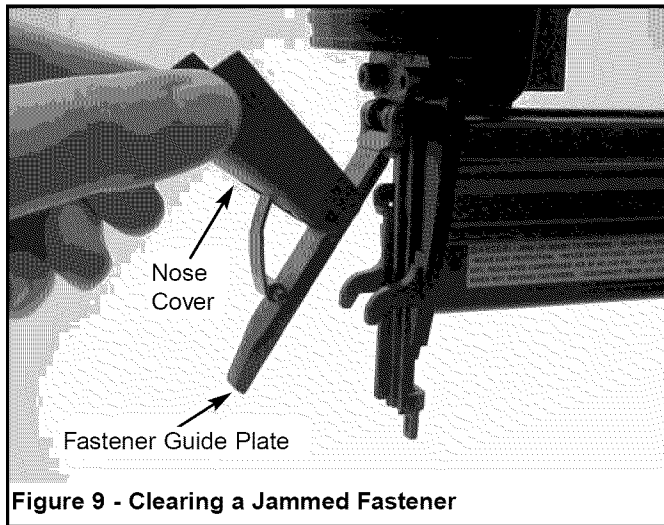

Figure 9 - Clearing a Jammed Fastener
- Grasp nose cover on both sides and pull outward until pin disengages from latch. then pull upward so that fastener guide plate swings away from magazine (see Figure 9).